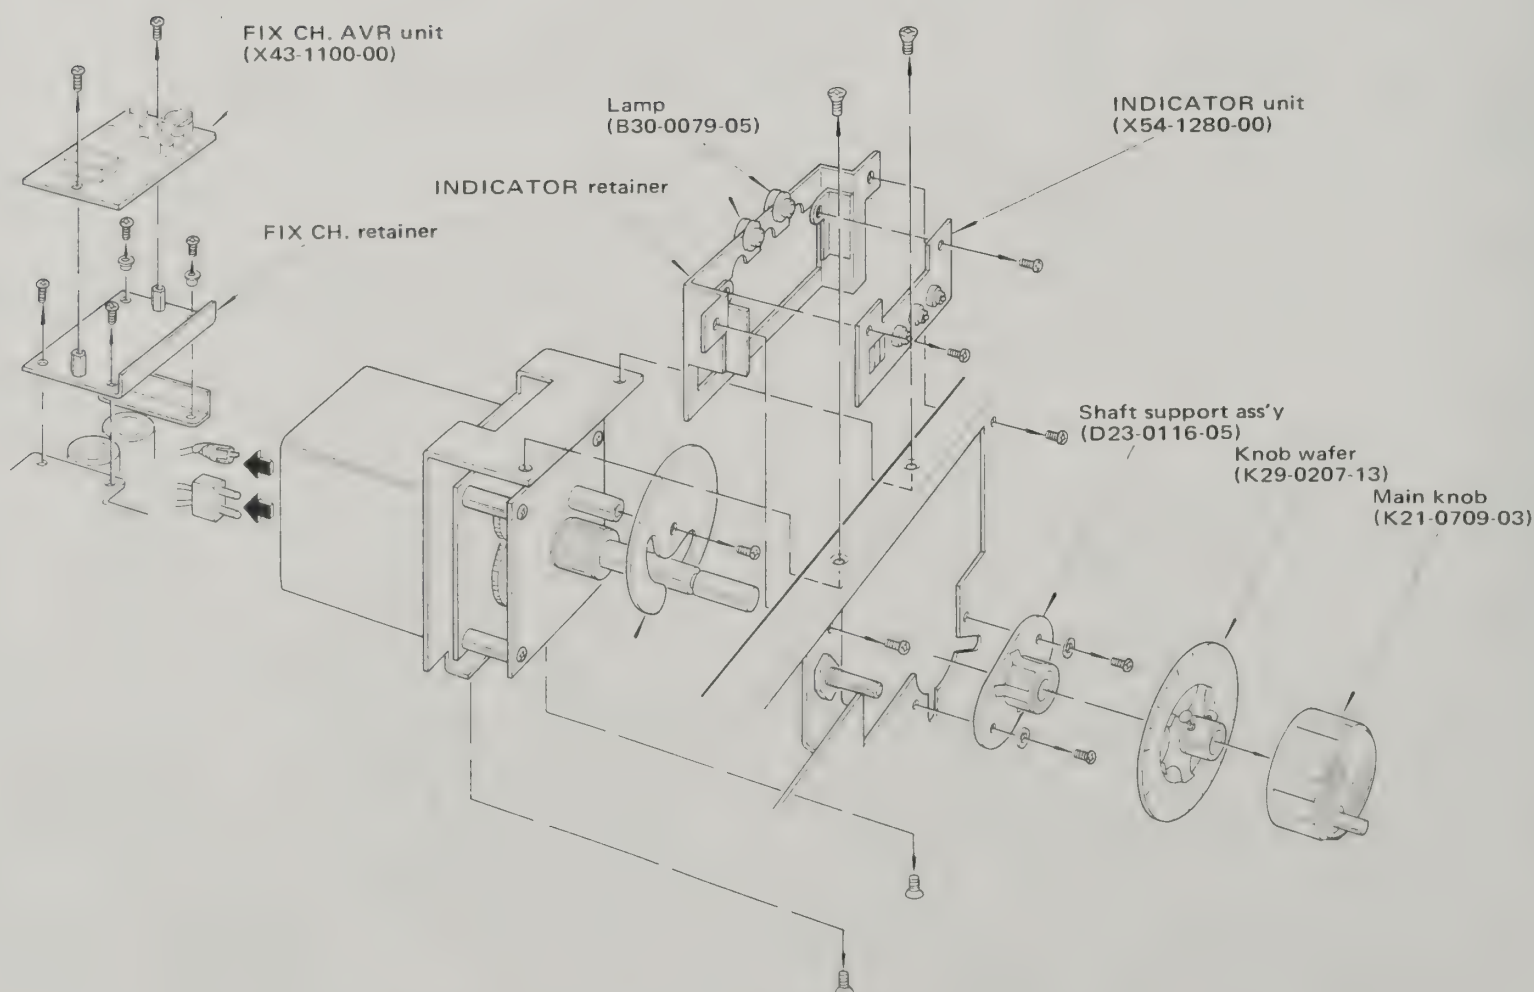

Fig. 13 Exploded View of VFO and INDICATOR Unit
1. Remove the front panel knobs, take off the transceiver's case, remove the front glass and pull off the front panel as shown in Figure 13.
5. Gently lift and pull the VFO assembly from the chassis being very careful not to damage the sub-dial. Figure 13 shows the entire assembly.
- 2) Loosen two screws of the indicator unit and lower it. See Figure 13.